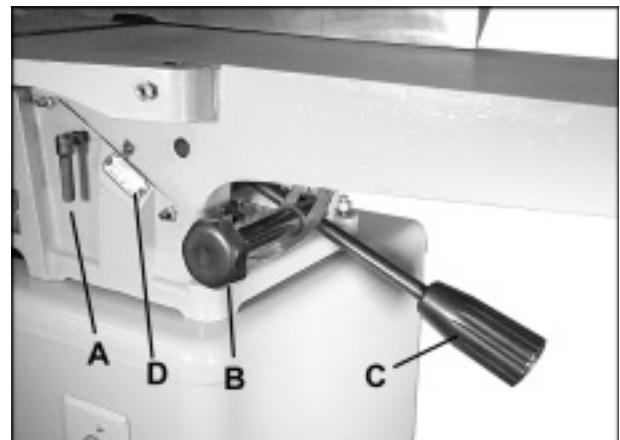

FIGURE 9
1. Loosen the lock screw (A), and the locking handle (B). See Figure 9.
2. Raise or lower the height adjustment handle (C) until the scale (D) reads approximately at the correct depth of cut.
3. Turn the locking handle (B) until it is snug, then fine-tune the adjustment with the height adjustment handle (C) by rotating it until the scale reads exact. (Clockwise raises the table, counterclockwise lowers the table.) The fine adjustment handle has 1/16" travel per rotation.
4. When set, retighten lock screw (A).